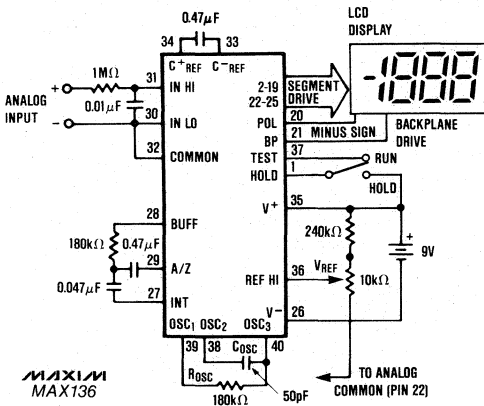

Figure 1. Maxim MAX136 Typical Operating Circuit, 200mV Full Scale.
**Note 3:** Test condition is  $V_{\text{IN}}$  applied between pins IN-HI and IN-LO, i.e., 1M $\Omega$  resistor in Figures 1 and 2.
**Note 6:** 1M $\Omega$  resistor is removed in Figures 1 and 2.
are not updated; when the Hold input is low or at the Test voltage, the display is updated at the end of each conversion. The MAX136 maintains low power dissipation even during display hold by eliminating the pull-down resistor between Hold and Test present on the ICL7116. The Hold input is CMOS compatible, and can also be driven by a switch connected between Test and V+ (Figure 1).